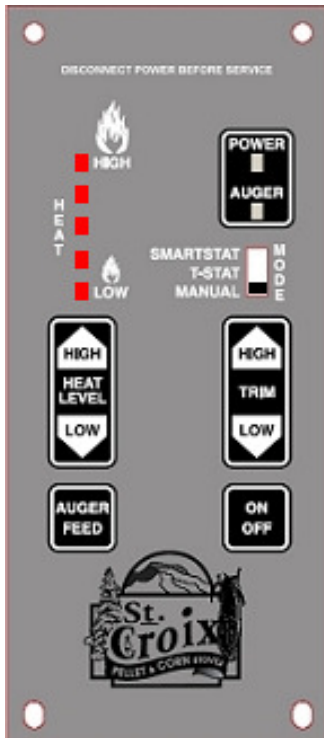

Figure 21
- 3 - **Program 3.** The Cycle Time is 11.5 seconds. **THIS PROGRAM IS THE DEFAULT PROGRAM FOR USE WITH THE ELEMENT-P.** This program is for use with Pellets, Cherry Pits and a 50/50 Percent Mixture of Pellets and Corn (See fig. 21 on page 31). **(DO NOT USE THIS PROGRAM WITH THE ELEMENT-MF).**
- 4 - **Program 4.** The Cycle Time is 10 seconds. **This Program offers Self-Ignition and is only for units that have the Versa Grate system & Igniter installed.** This program is for use with Cherry Pits. (See fig. 21 on page 31). **(DO NOT USE THIS PROGRAM WITH THE ELEMENT-MF).**
To change the Program, the Stove must be in the OFF position and the unit must be completely cooled down so the Proof of Fire Switch is Open and the Thermostat slide switch must be in the Manual mode. (See figure 21)
2. Push the On/Off button on the control board. (See figure 21)